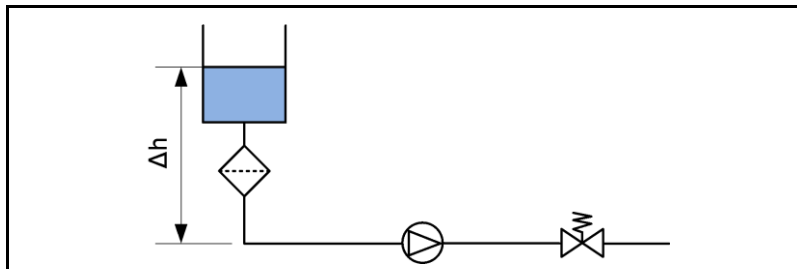

Fig. 57: Pressure test setup
1. Set up the system as shown in Fig. 57.